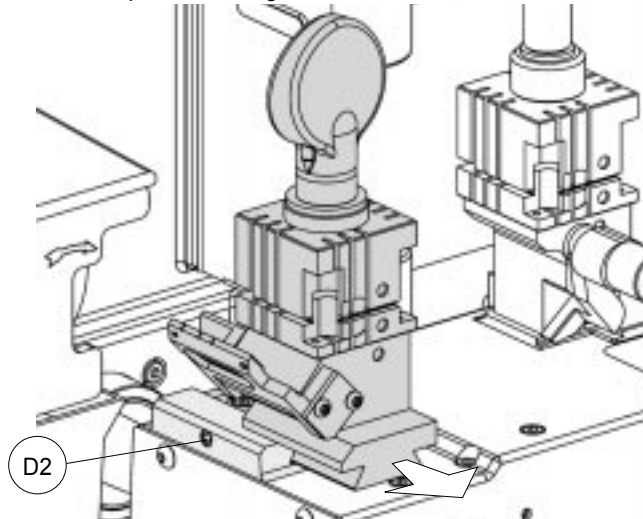

Fig. 18
- loosen the grub screw (D2) (fig. 18) and slide the clamp out of the dovetail guide.